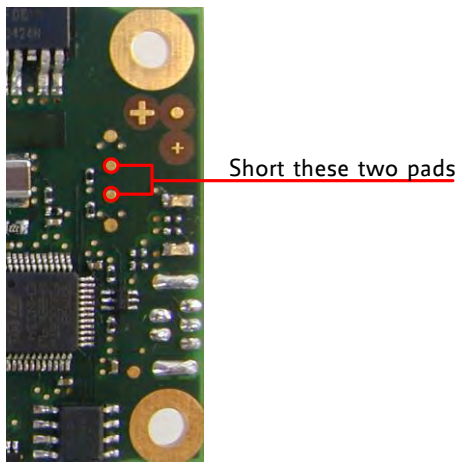

Figure 4.1 Reset to factory default settings
2. Short two pads as marked in Figure 4.1